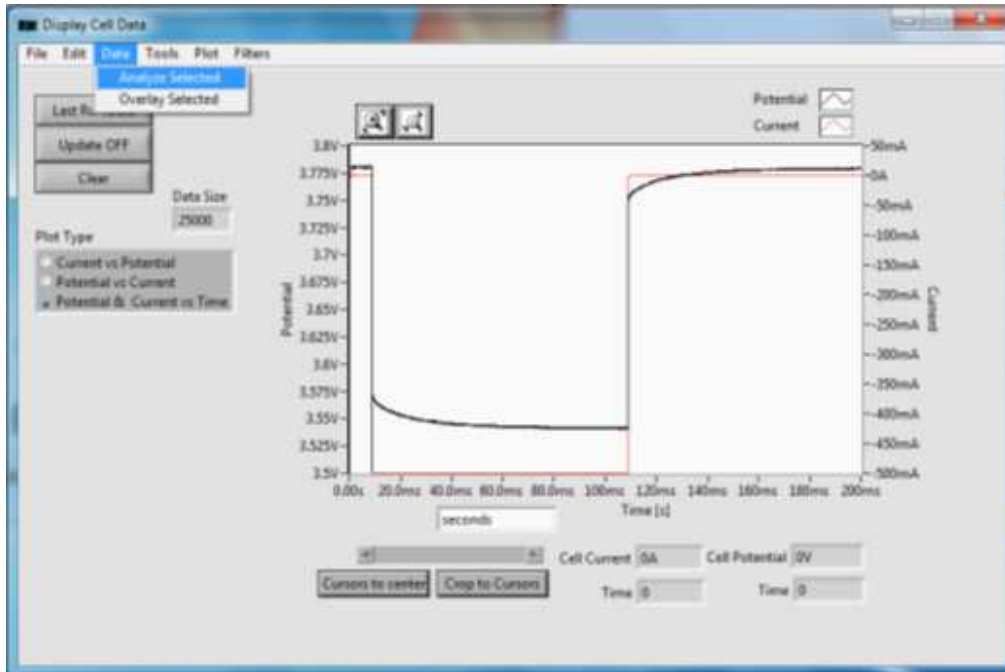
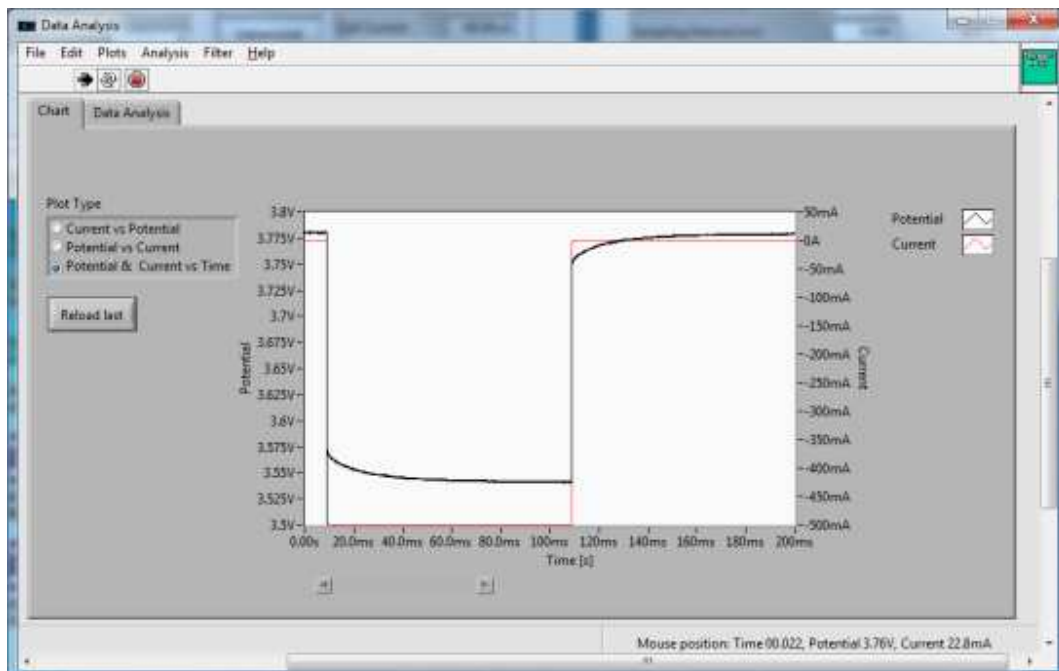

Figure 50 Opening [Data analysis] window
Figure 51 [Data analysis] window
1. [Display Cell Data] **Data**→*Analyze Selected* (Figure 50) opens the [Data Analysis] window (Figure 51).